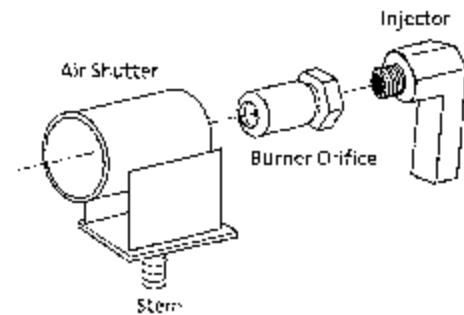

Figure 12. Burner orifice removal and replacement.
- Lift the rear of the Burner Tube and rotate slightly forward. Slide the tube to the left enough to disengage it from the Air Shutter and Burner Orifice, then lift out. Slide the Air Shutter back out of the way to expose the orifice. Fig. 12.